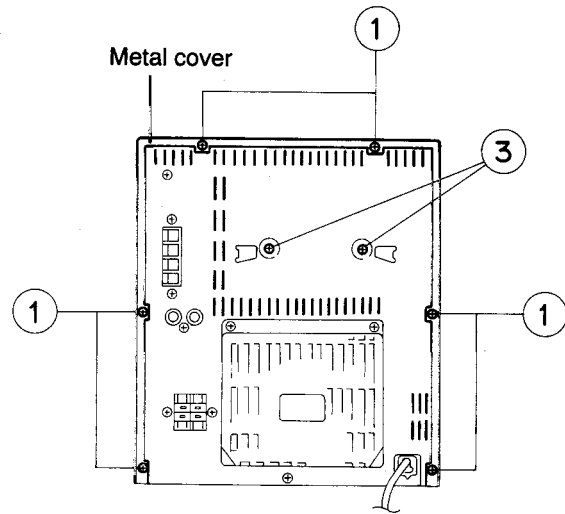

Fig.5-1.
### ■ Removal of the Metal Cover (See Figs. 5-1,5-2)
1. Remove the six screws ① fastening the metal cover to the rear panel of the main unit. (See Fig. 5-1)
2. Remove the two screws ② fastening the metal cover to the side panel of the main unit. (See Fig. 5-1)
### ■ Removal of the CD Traverse Mechanism Assembly (See Figs. 5-1 ~5-4)
2. Remove the two screws ② fastening the CD traverse mechanism assembly to the rear panel of the main unit. (See Fig. 5-1)